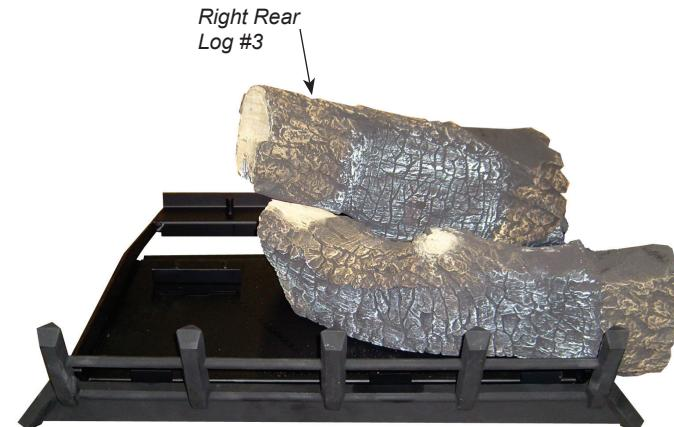

Figure 33.
3. Place right rear log (#3) on pin located on rear support bracket and rest left side of log on front right log. Figure 33 After placing right rear log, ensure log is fully upright and does not tilt forward. Slide #1 log ember chunk back to contact right rear log.